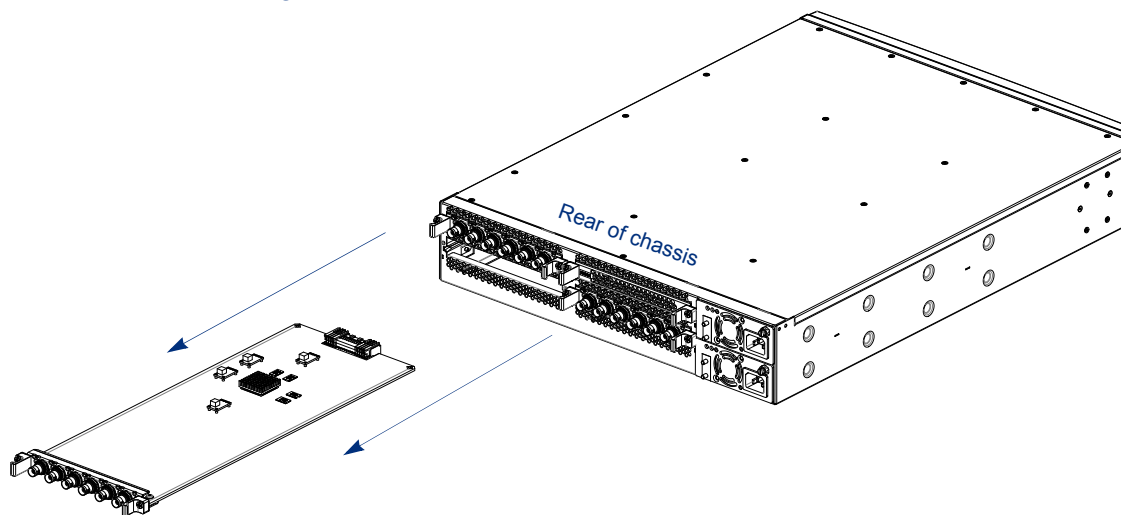

Figure 298. Remove the module
3. Using the handles on either side of the module as a grip, gently but firmly slide the module out of the chassis, as shown in Figure 298.